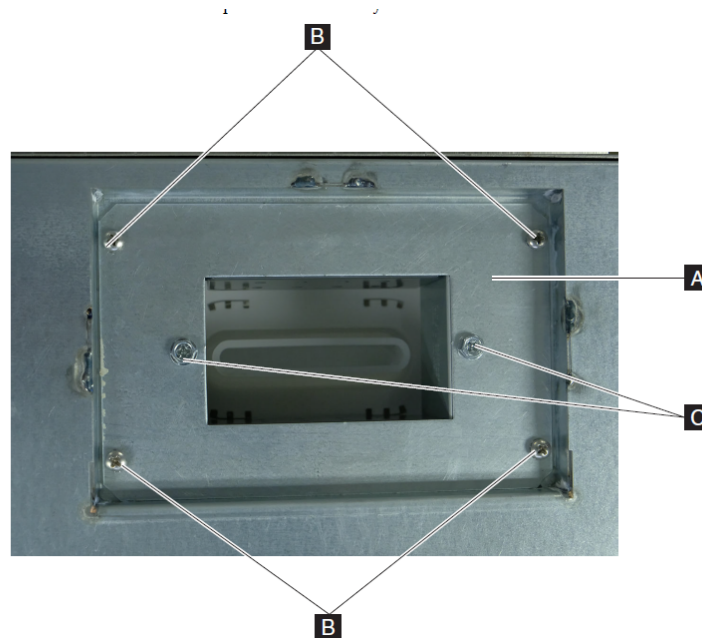

Figure 2: Coupon box view from below
- b) Remove the 4 (2.5MM hex head) black corner screws **(B)** in the mounting plate to drop the assembly from the cabinet as showing in Figure 2. You **DO NOT** need to remove the 2 screws **(C)** mounting the coupon sensor to the mounting plate. Confirm hex key size to prevent stripping of fastener.